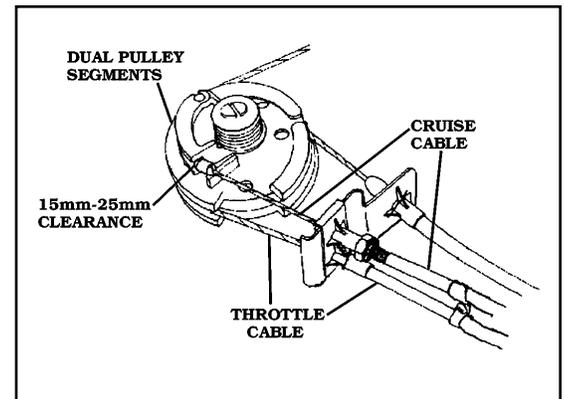

Figure 12
5. Attach the **T-BAR ADAPTER** to the **BEAD CHAIN CONNECTOR**. Make sure to slide the **CONNECTOR COVER** over the **BEAD CHAIN CONNECTOR**. **Figure 12**